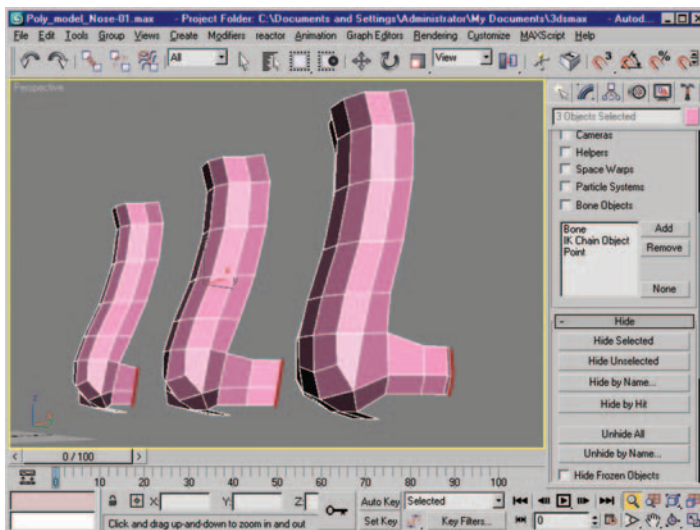

Figure 3.17 Mesh as it progresses, starting on the left and moving right.
17. Repeat the previous step one more time, creating two new polygons and moving edges and verts to shape the outer curve of the nostril further (Figure 3.17).
18. All right, last time, shift-drag the same edge selection one more time, moving it back along the Y-axis, then move the selection in sideways along the X-axis toward the center of the model. This will help create the crease that separates the nose from the cheek. Figure 3.17 shows the mesh during the various actions we just performed, starting with our base from the previous step.